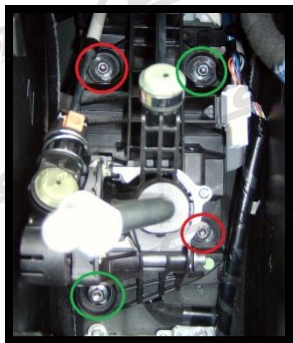

Figure 1a
- E. Unbolt the shifter base, using a 10mm socket and long extension. (See **Figure 1a** for bolt locations)
- A. Install a shifter bushing under each shifter base. There are two (2) sizes of shifter bushings. (Shown in **Figure 1a**, the bushings with "CS" logo go in the **red circles**, the smaller bushings go in the **green circles**).